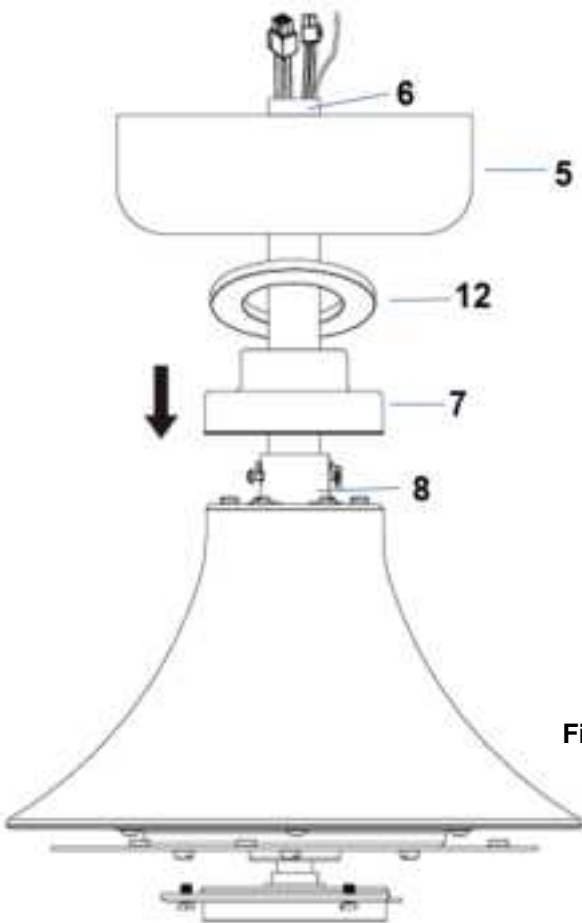
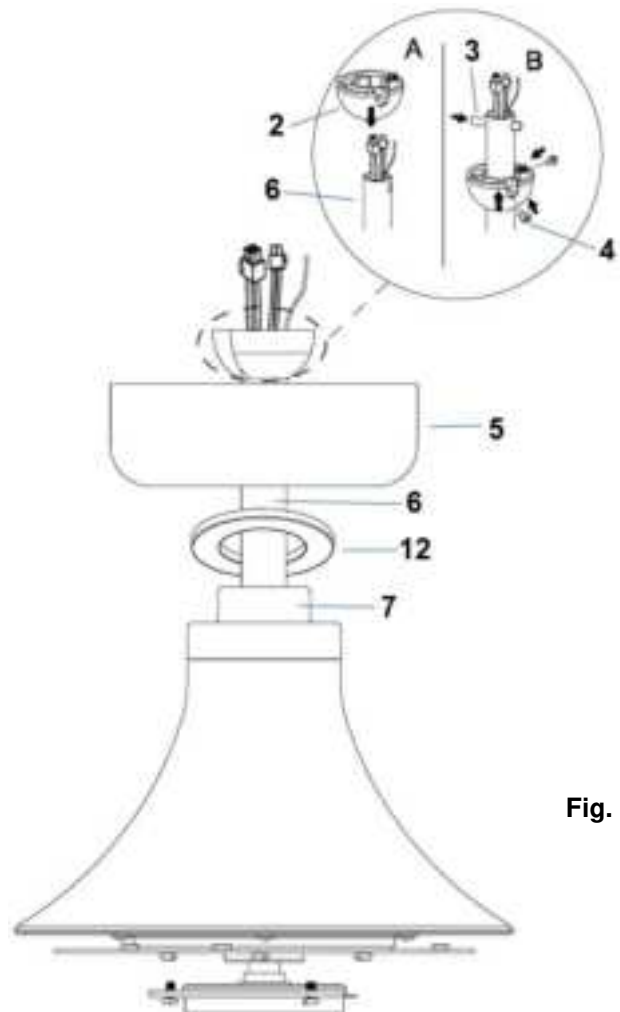

Fig. 4.5
Fig. 4.6
- 6. Insert the bolt and pin cover (7) onto the down rod (6) to cover the down rod coupling housing (8). (Fig. 4.5)
- 7. Insert the canopy cover (12) & canopy (5) over the down rod (6) and install the ball joint (2) and dowel pin (3) back onto the down rod (6) and secure by tightening the set screws (4). (Fig. 4.5 & Fig. 4.6)